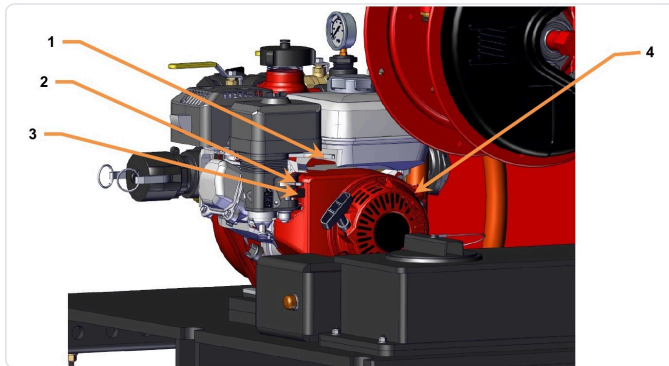

Figure 3. Engine controls, Versax 9 (Honda GX270, electric start)
2. Open the fuel shut-off valve (Figure 3/4, Item 3).